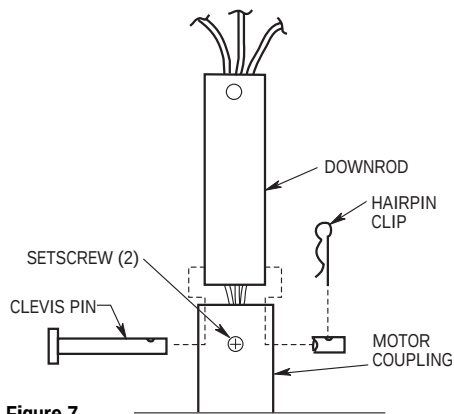

Figure 7
- 8. Loosen the two setscrews in motor coupling if necessary. Separate, untwist and unkink the three 80" motor leads. Route the motor lead wires through the desired downrod. Align the clevis pin holes in the downrod with the holes in the motor coupling. Install the clevis pin and secure with the hairpin clip (Figure 7). The clevis pin must go through the holes in the motor coupling and the holes in the downrod. Be sure to push the straight leg of the hairpin clip through the hole near the end of the clevis pin until the curved portion of the hairpin clip snaps around the clevis pin. The hairpin clip must be properly installed to prevent the clevis pin from working loose. Pull on the downrod to make sure the clevis pin is properly installed.